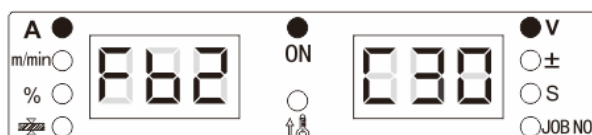

Fig.3-10 Model Query Display Interface
1. Enter into internal function, and adjust left panel knob to FB2 (shown in figure 3-10).